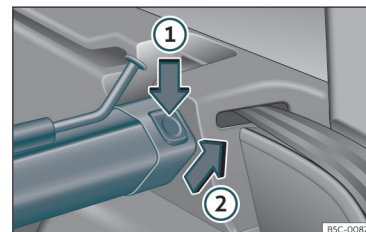

Fig. 122 In the luggage compartment: removing the net partition.
- Press the left or right release catch » Fig. 122 in the direction of the arrow ①.
- Remove the casing from the support in the direction of the arrow » Fig. 122 ②.
- Press the casing into the left and right supports in the opposite direction to the arrow » Fig. 122 ② until it engages.